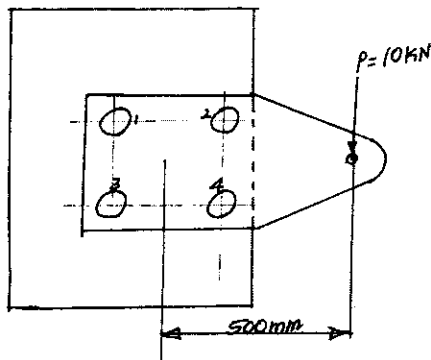

Fig. Q4(b)
- b. The structural connection shown in Fig.Q4(b) is subjected to an eccentric load P of 10 kN with an eccentricity of 500 mm. The centre distance between bolts at 1 and 3 is 150 mm and the centre distance between 1 and 2 is 200 mm. All the bolts are identical. The bolts are made of plain carbon steel having yield strength in tension of 400 MPa and the factor of safety is 2.5. Determine size of the bolts. (10 Marks)